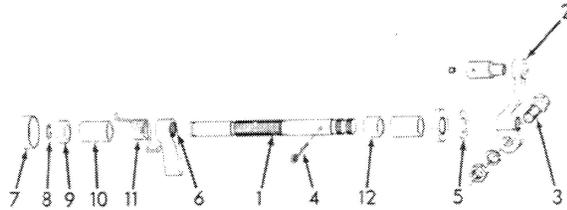

Fig. 20 Shut-off Shaft and Lever Assembly
30. If it is found necessary to remove the shut-off shaft, Fig. 20 (1) scribe a line across the end of the shaft and the shut-off lever (2) and mark the position of the shaft when the shut-off plate is against the pump housing. Loosen the lever clamping screw and remove the lever from the shaft.
- a. Remove cotter pin (4) from shut-off shaft (1).
- b. Remove washer (5) from shaft.
- c. Tap shaft to force out cap plug (7). Remove